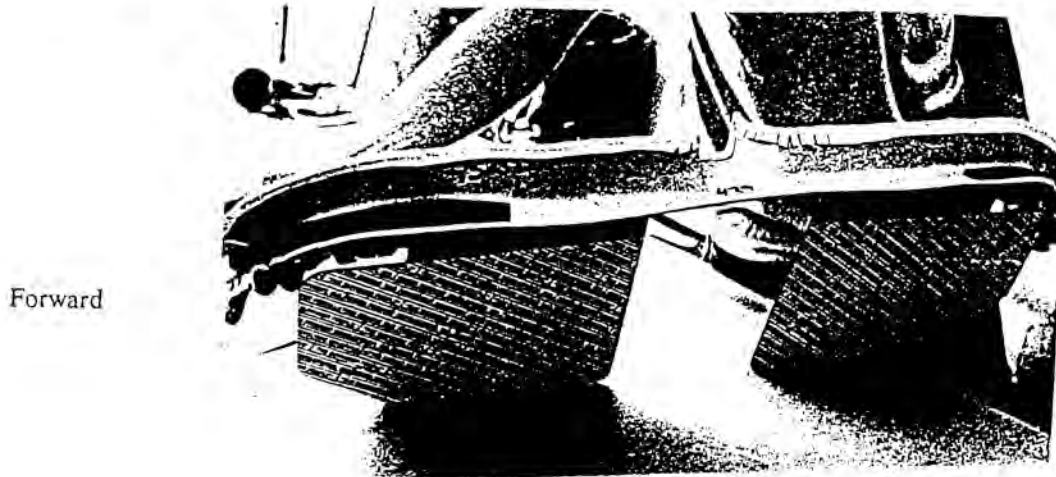

Figure 1
- Your new Rosen sunvisors will fasten to the front top Royalite trim panel that from below looks like Figure 1.